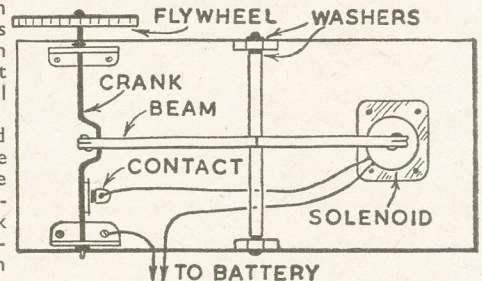
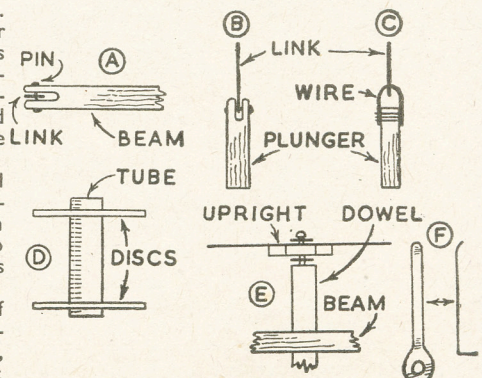

Fig. 1—Plan view of beam engine
Fig. 3—Further details of construction
The detail at (D) in Fig. 3 illustrates the solenoid before winding. Each of the end discs is cut from really strong
deep and then drill a small cross hole for the pivot, as shown at (B) in Fig. 3. If this cannot be done a wire staple may be passed through the hole in the connecting link and then bound to the top of the plunger with glued thread, as shown at (C).
One end of the solenoid winding goes to the battery, as illustrated in Fig. 1. The other goes to a contact cut from thin metal and shaped as shown at (F) in Fig. 3. This is screwed near the crank axle (see Fig. 1).